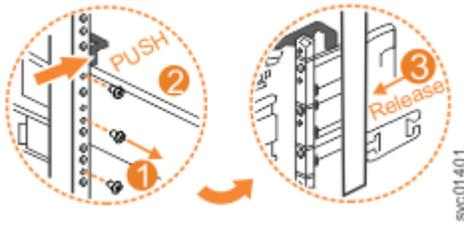

Figure 133. Remove the rail assembly from the rear frame bracket
3. Remove the two screws that attach the inner rail section to the rear bracket, as shown in Figure 133 on page 122.
4. Pull the rail forward, away from the rear bracket, as shown in Figure 133 on page 122.